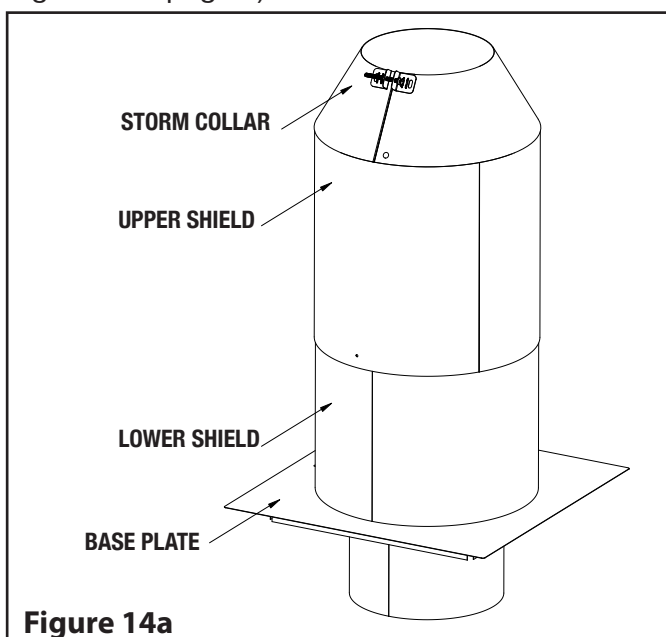
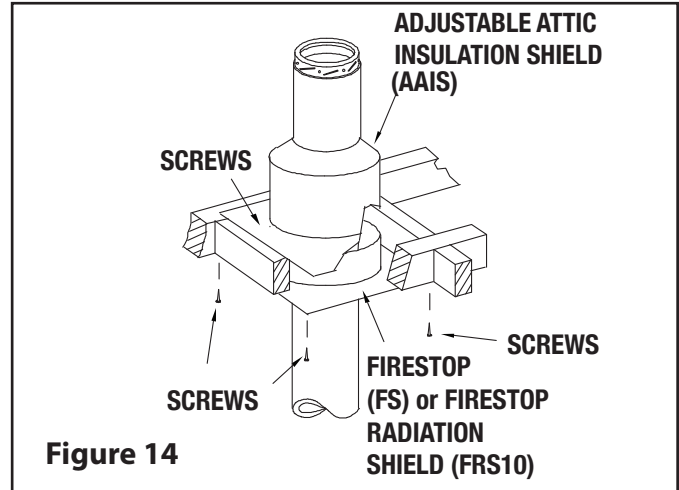

Figure 14a
Figure 14
Step 5. From below, install a Firestop (FS) at each ceiling through which the chimney passes.
Step 7. At the attic level, install a Firestop (FS or FRS10), from below and an Adjustable Attic Insulation Shield (AAIS) and Storm Collar from above. Secure to framing with 1" wood screws. (see Figure 14).
The Adjustable Attic Insulation Shield (Figure 14) is designed to keep insulation materials from coming into contact with the chimney. Adjustable from 12" to 22", it must meet the insulation level requirement of the National Building Code. Attic insulation must be 2" below the storm collar. Minimum overlap of 1" is required prior to securing the 2 halves (Upper and Lower Shields) together. See Figure 14a.